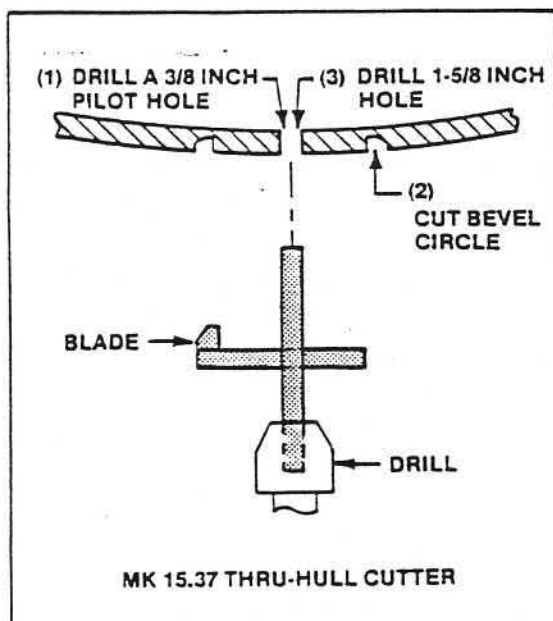

Figure 3.3
- b) If a MK 15.37 thru-hull cutter is used, it must be used to cut the countersink before the hole is cut. Use the pilot hole as a center guide. Once the hull is bevelled, drill a 1-5/8" hole with the hole saw using the 3/8" hole as a guide (see Figure 3.3).
1. Using the Masthead Base as a template, drill two 0.20" dia. holes and tap with a 1/4-20 tap. Mount the base with the taller end aft and secure loosely with the bolts and lock washers provided. (See figure 3.3).